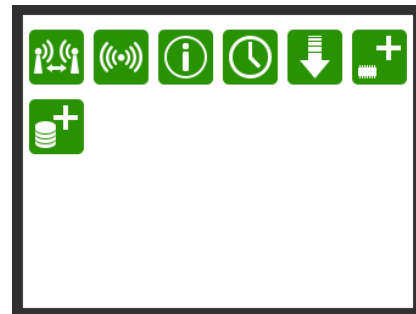

Figure 6-20 Start screen
1. In the screen (Figure 6-20) press